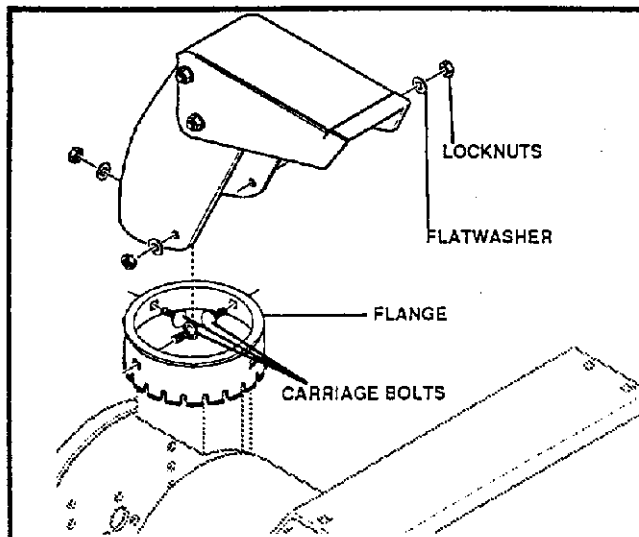

FIG. 7-ASSY
- Position snow chute on snow chute flange and align the three holes in the snow chute with holes in the snow chute flange (See FIG. 7-ASSY)
- Install (3) carriage bolts (found in parts bag) from inside of chute as shown in FIG. 7-ASSY.
- Install (3) flat washers and (3) nuts as shown in FIG. 7-ASSY.